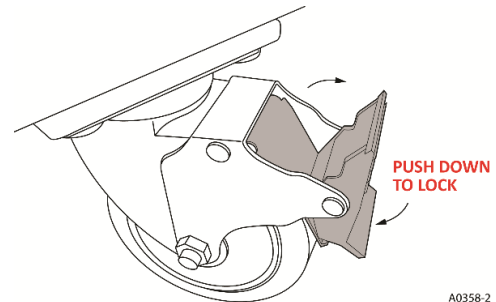

FIGURE 3 — CASTERS IN LOCK POSITION
- Wheel casters in locked position. See Figure 3.